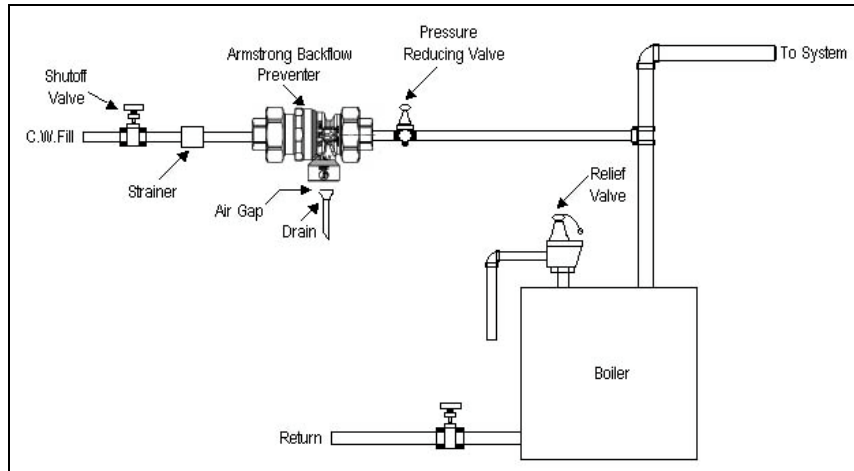

Fig. 1 Typical Installation
6. The BFP backflow preventers **must be installed horizontally** on supply pipes with the vent port pointing down, as shown in Fig 1.